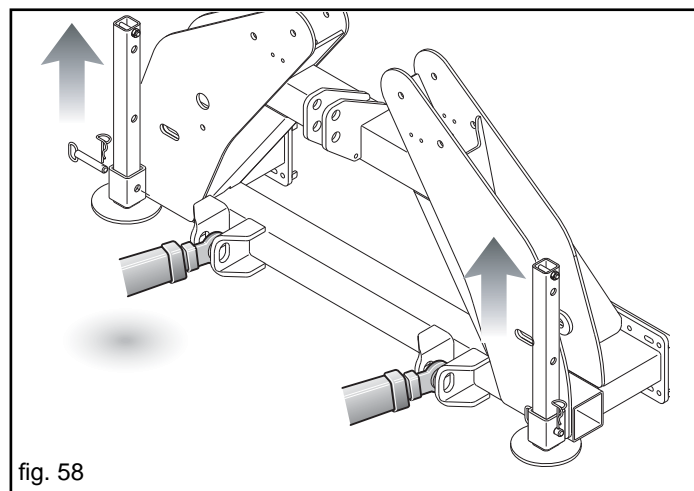

fig. 58
- Lift the equipment off the ground and remove the support legs (Fig. 58).